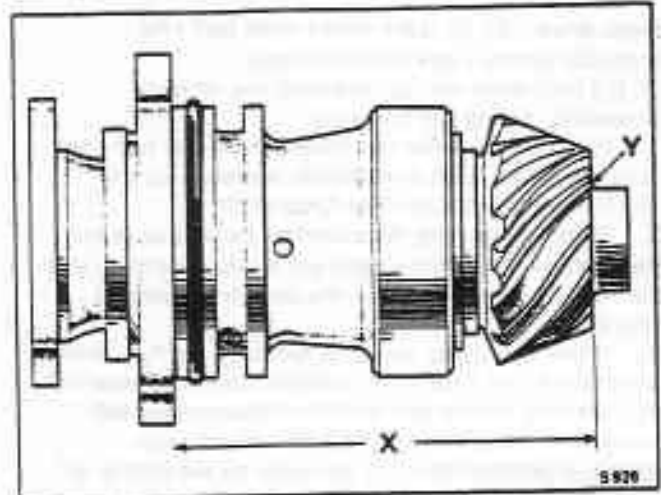

Fig. J1-10 Pinion housing measurement
5. Carefully measure from the back face of the pinion housing front flange to the face of the pinion gear adjacent to the nose bearing diameter (see fig. J1-10 dimension X).